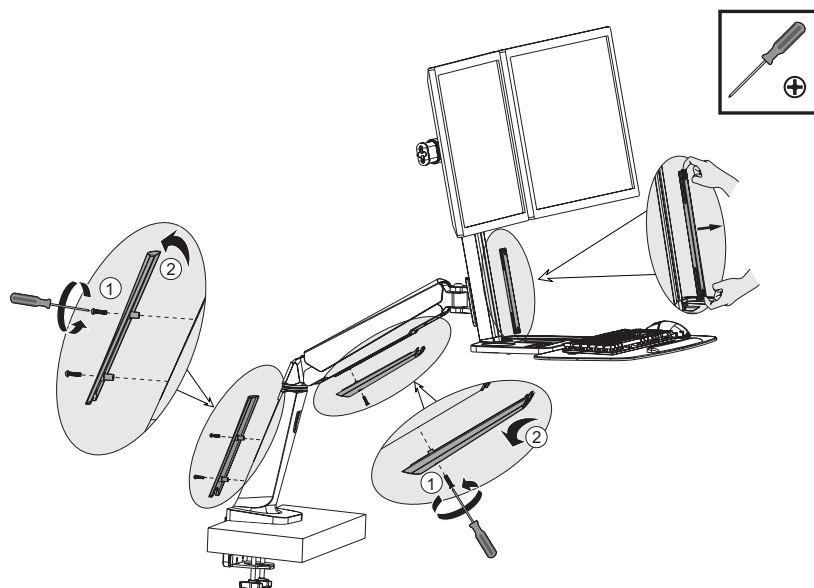

Figure 16
1. Remove the cable management covers from the mounting arms using a Phillips screwdriver, see Figure 16.